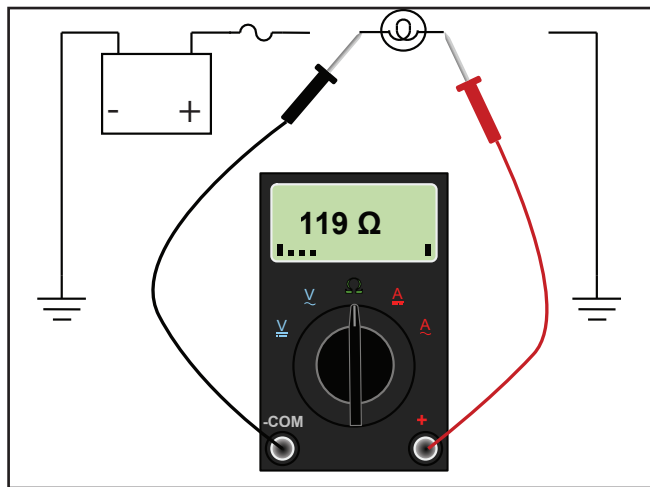

Figure 10
4. Read resistance on the meter (Figure 10).